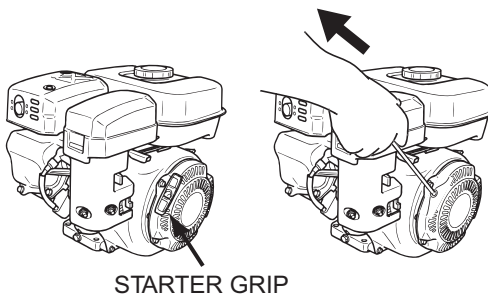

Figure 10. Starter Grip
13. Grasp the starter grip (Figure 10) and slowly pull it out. The resistance becomes the hardest at a certain position, corresponding the compression point. Rewind the rope a little from that point and pull out sharply.